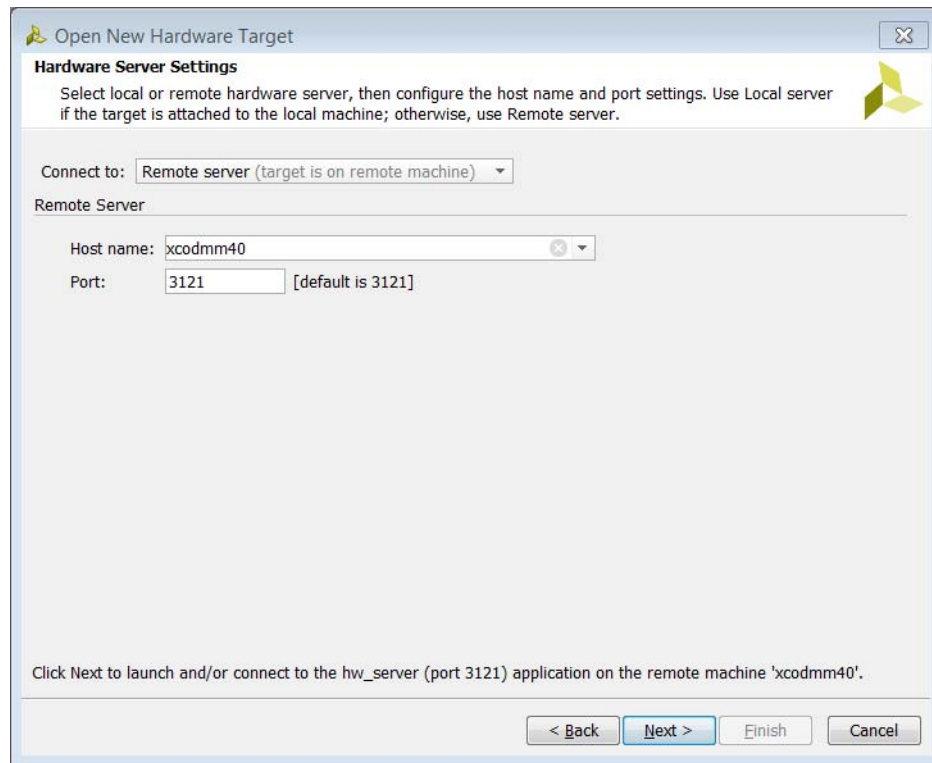

Figure 2-13: Using a Remote Hardware Server
- Remote server: Use this setting if your hardware target is connected to a different machine on which you are running the Vivado IDE. Specify the host name or IP address of the remote machine and the port number for the hardware server (`hw_server`) application that is running on that machine (see Figure 2-13). Refer to Connecting to a Remote hw_server Running on a Lab Machine in Chapter 5 for more details on remote debugging.